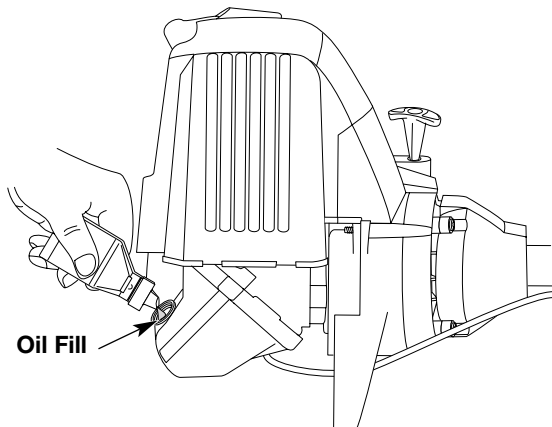

Fig. 19
4. Pour the entire bottle of oil into the oil fill hole (Fig. 19).